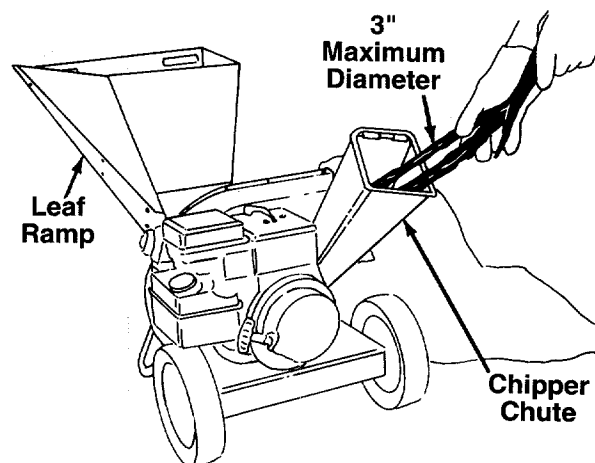

FIGURE 11.
3. Bulky material, such as stalks or heavy branches, up to 3" in diameter should be fed into the chipper chute. See figure 11.